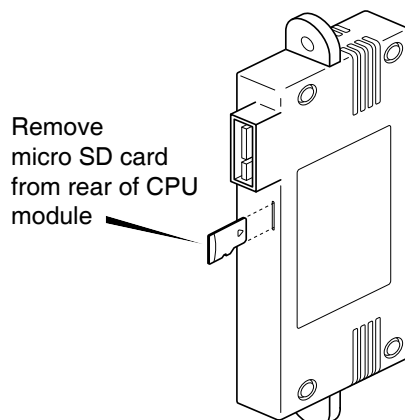

Fig 6 Removing micro SD card from plug-in CPU module
- The easiest and fastest technique is to unplug the CPU module from the Hazardous area Pageant Operator Panel and remove the micro SD card as shown in Fig 6.